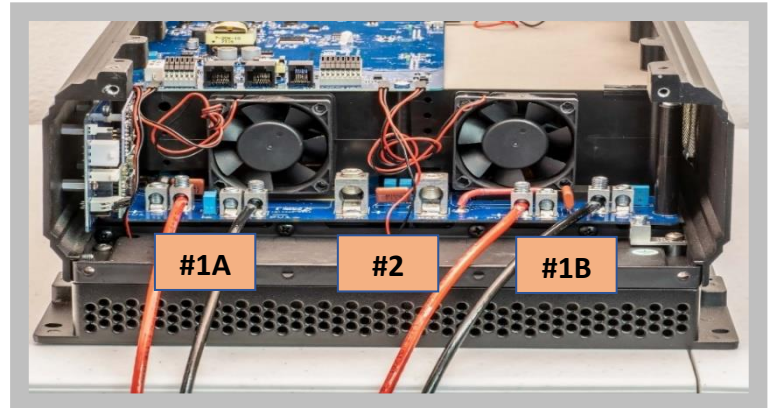

Figure 18
## BARCELONA WIRING (Figure 18)
- Connect PV+ and PV- wires from PV array #1 to terminal block (**#1A**), **Figure 18**.
- Connect **#2/0 AWG** Batt+ and Batt- cables to terminal block (**#2**), **Figure 18**.